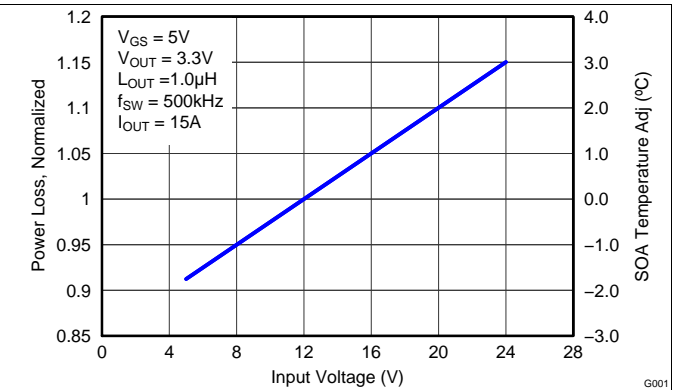

Figure 7. Normalized Power Loss vs Input Voltage
- Normalized Power Loss for input voltage ≈ 1.10 (Figure 7)
- SOA adjustment for input voltage $\approx 2.0^\circ\text{C}$ (Figure 7)